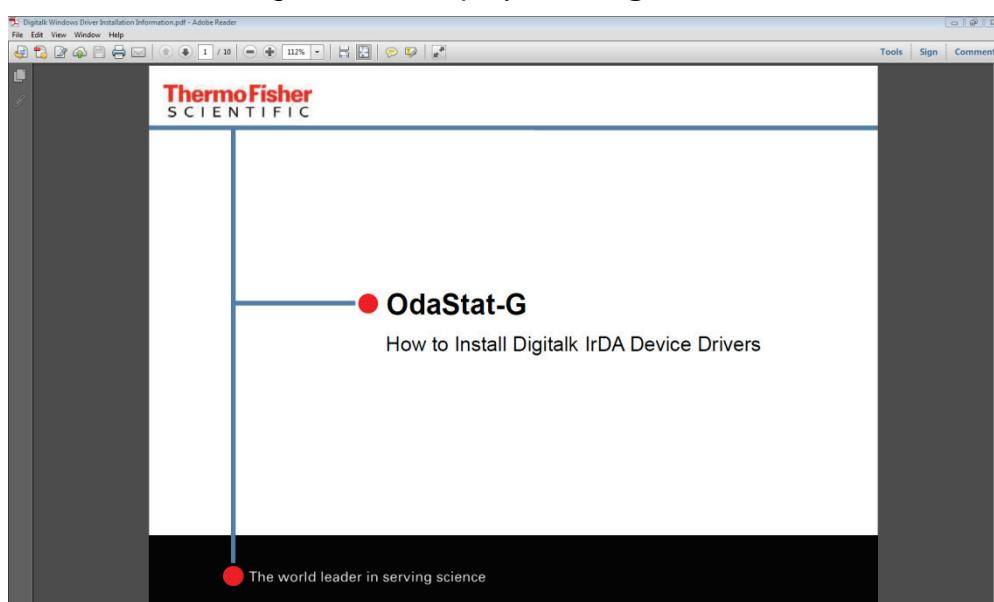

Figure 7: Select IR Driver Guide
5. Double click on the “IrDA Driver Information” hyperlink text to open the “IrDA driver installation guide” as displayed in **Figure 7**.